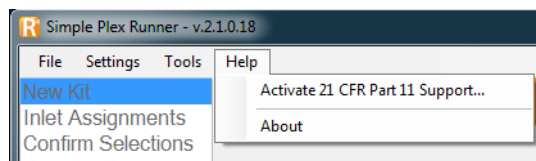

Figure 6-1: Help menu.
1. Click **Help > Activate 21 CFR Part 11 Support...** (Figure 6-1).